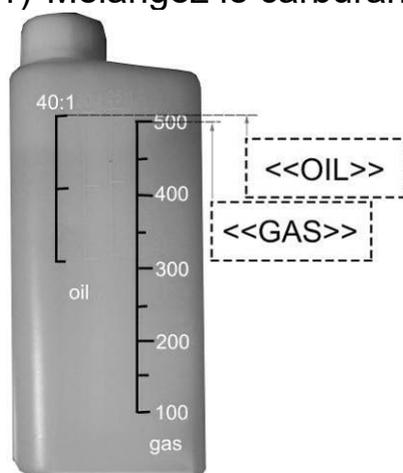

Fig.15
1) Mélangez le carburant (fig.15)